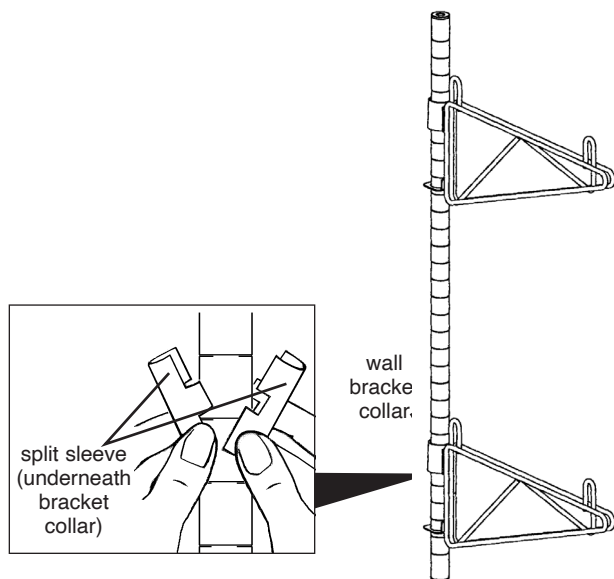

figure 4
- Slide the wall bracket collar (see figure 4) over top of post and down onto the plastic split sleeve. Repeat for each shelf bracket.